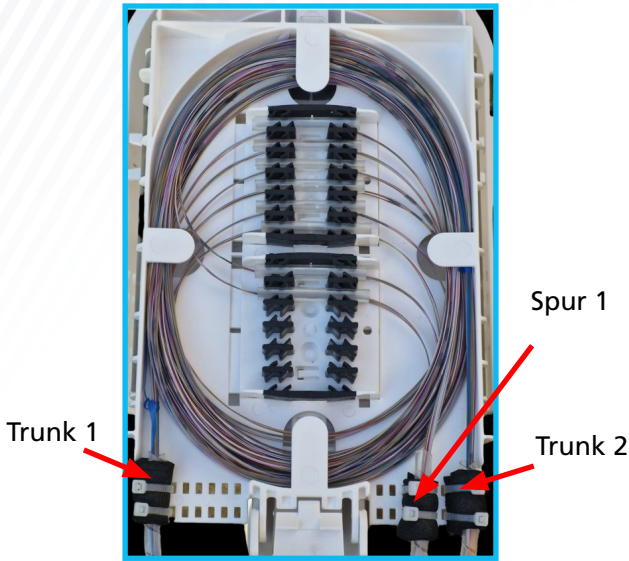

Figure 14.3 - Spur 1
3. Attach the fibre to the splice tray using foam and cable ties. **figure 14.3** shows the single spur, **figure 14.2** details the Dual Spur.